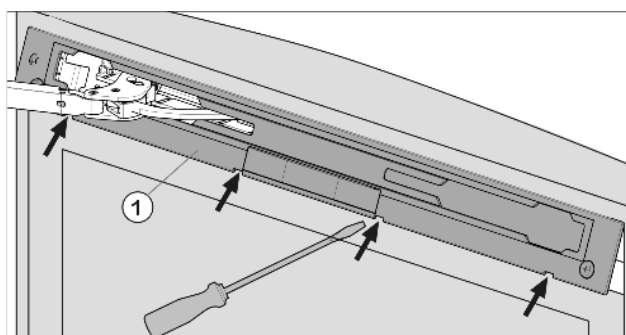

Fig. 35
- Release panel Fig. 35 (1) using slotted screwdriver and remove.